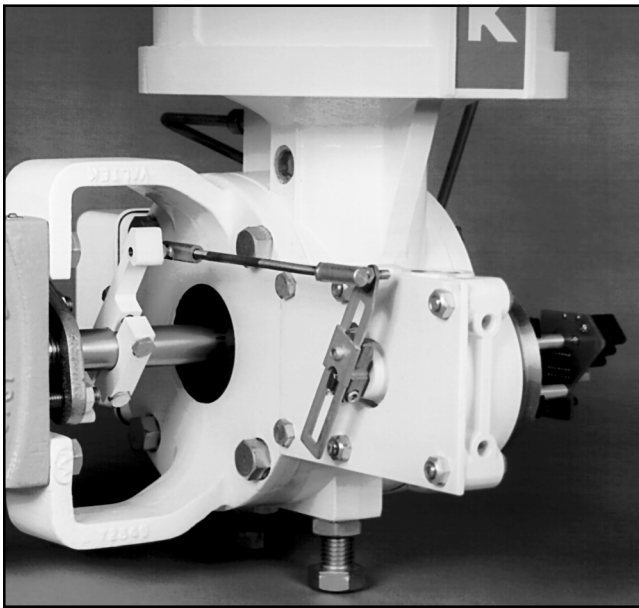

Figure 3: Rotary Application – Rear View
To install Position Pac on Valtek rotary actuators, refer to Figures 3 and 4, and proceed as follows:
5. Connect the linkage assembly to both levers as shown in Figure 3.